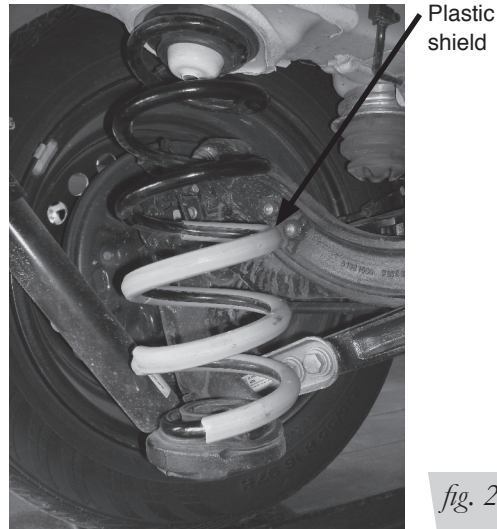

fig. 2
3. Remove the plastic shield from the rear coil springs on both sides. (Fig. 2)